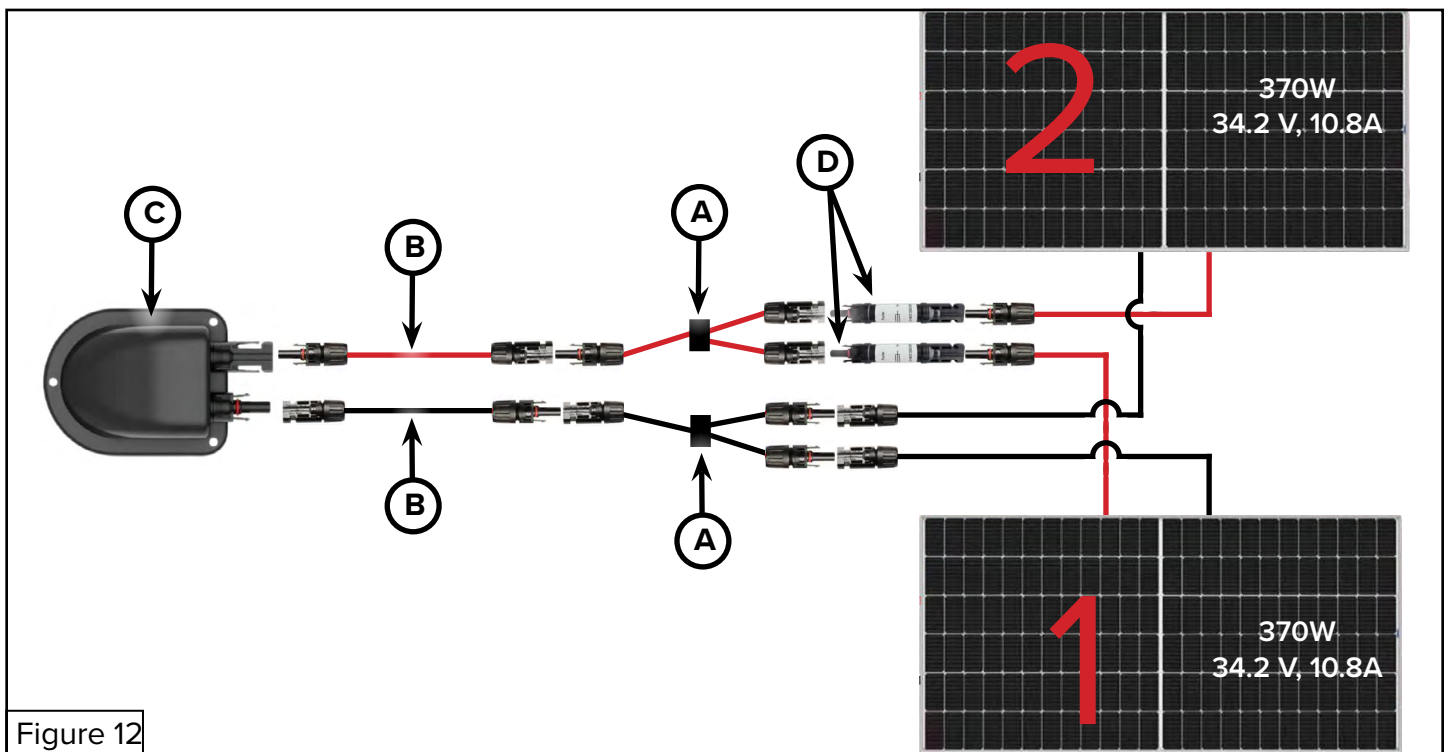

Figure 12
9. Connect the solar panel wiring per the wiring diagram (Figure 12) using the Solar Y Branch Connectors (P/N 101832) (Figure 12A), the 15A Solar Fuses (P/N 104035) (Figure 12D), and (if necessary) the Solar Wire Jumper cables (P/N 103260) (Figure 12B). Depending on the location of the solar panels and the Roof Junction box (Figure 12C), you may not need jumper cables. If there is a 15A fuse installed in the current wiring, remove it, and use the new fuses provided in the kit.